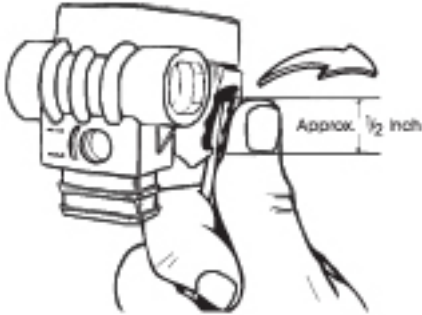

Figure 16 - Removal of exhaust cover - Step 1
19. Pull the anti-venturi vane straight up and out of the mouthpiece boss of the box bottom. Remove and discard the O-ring (21), and set the vane aside.
- Place a medium blade screwdriver approximately 1/2" inside the top corner of the exhaust cover (8), and press the exhaust cover between thumb and screwdriver (see Figure 16). While holding the box bottom horizontal and secure, sharply pull the exhaust cover out and away from the box bottom only until that corner of the exhaust cover is disengaged.